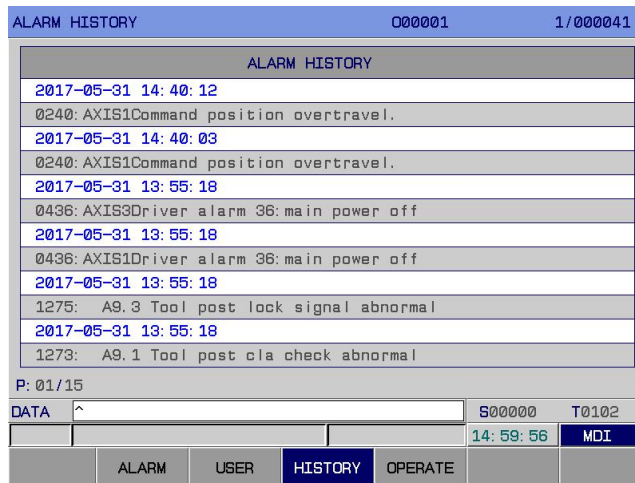

Fig.3-7-3
3. History interface: On <alarm> interface, press [history] to enter the historical alarm message interface, as shown in Fig.3-7-3: